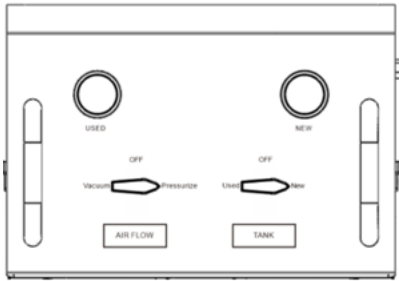

Fig 11.
2. On the panel turn the left valve "AIR FLOW" to "Pressurize" position, right valve "TANK" to "New" position (Fig.11), open the valves on both hoses (Fig.12), and then open the workshop air valve to start refrigerant exchange (during the process, you can turn the left valve "AIR FLOW" to "Vacuum" and the right valve "TANK" to "Used" to eliminate air bubbles in the cooler system);